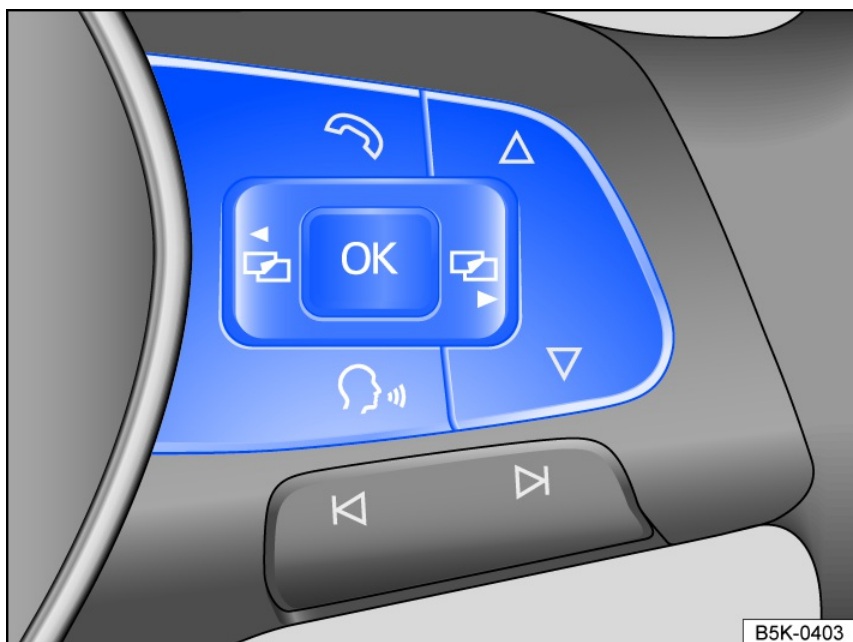

Fig. 11 Right side of the multi-function steering wheel: buttons for operating the menus and information displays in the instrument cluster
i Vehicles with multi-function steering wheel: Menus cannot be accessed when a priority 1 warning message is displayed ⇒ *Warning and information texts*. You can confirm and hide some messages using the **OK** button on the multi-function steering wheel *fig. 11*.
2. If a message or vehicle icon is displayed, press the **OK** *fig. 11* button on the multi-function steering wheel, repeatedly if necessary.
1. Press the  and  arrow buttons on the multi-function steering wheel *fig. 11* until your preferred submenu item is highlighted.